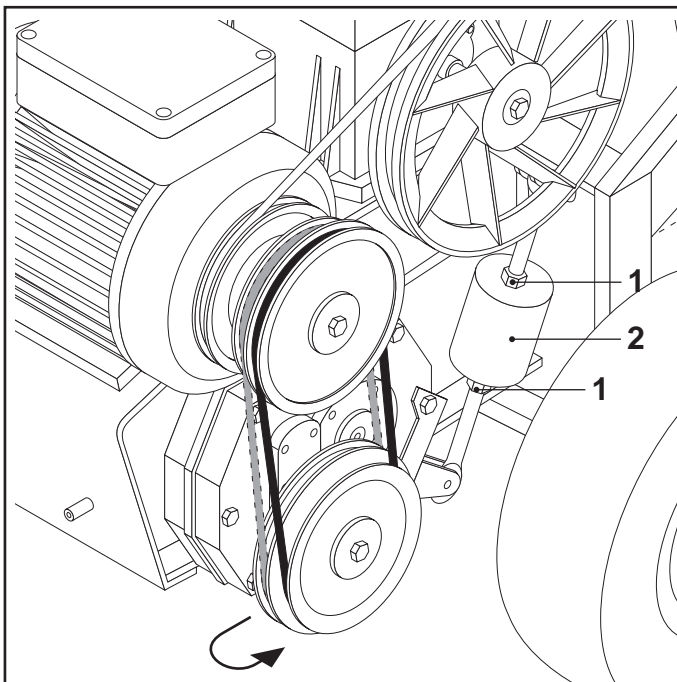

FIG.24
- Loosen the belt by acting on the belt tensioner, loosening the locking nuts (FIG.24-REF.1) and turning the buffer (FIG.24-REF.2).
- Restore correct belt tension, by turning the buffer until it reaches its original position (FIG.24-REF.2) and tightening the locking nuts again (FIG.24-REF.1).